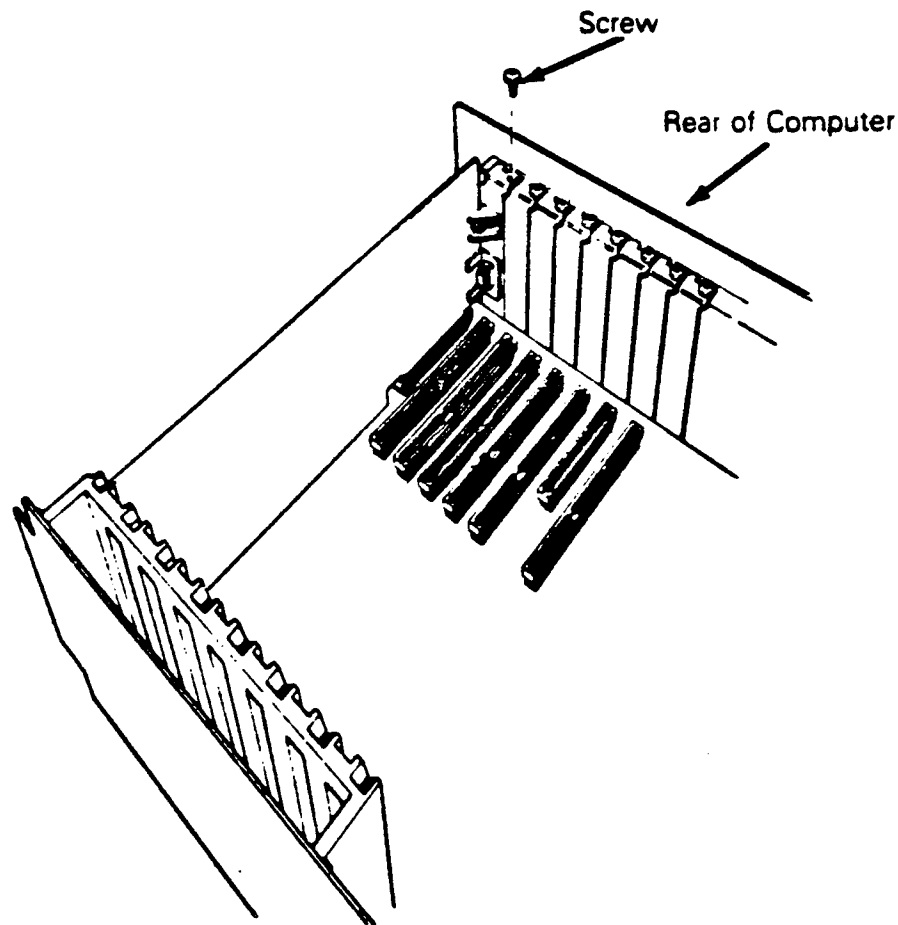

Figure 1-3. CCA Chassis
8. Install the MCS controller into the CCA (Central Cabinet Assembly) chassis (refer to Figure 1-3). The controller may reside in any back-plane location.